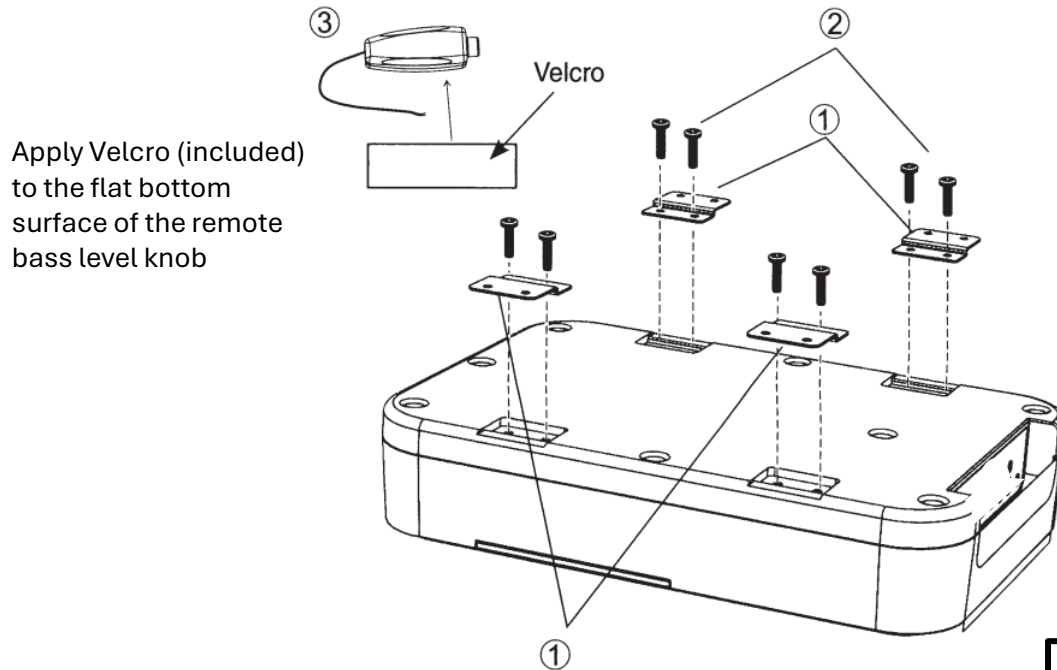
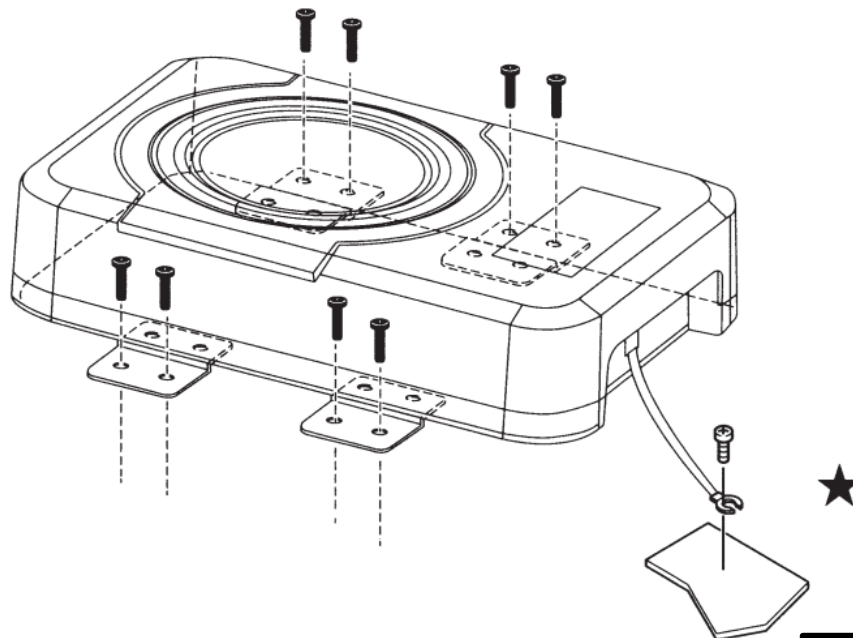

Fig. 1
Fig. 2
Installation (Fig. 1) & (Fig. 2)
1. Attach the included mounting brackets to the PWE-S8-MRN with the supplied screws. (See to Fig. 1)
2. Once the brackets are mounted to the PWE-S8-MRN. Place the subwoofer in the desired location within the vehicle. Before securing with screws, check to make sure all screws can affix to a structurally solid surface while avoiding vehicle wiring, components, etc. (See Fig. 2)
NOTE: (Fig 2.)